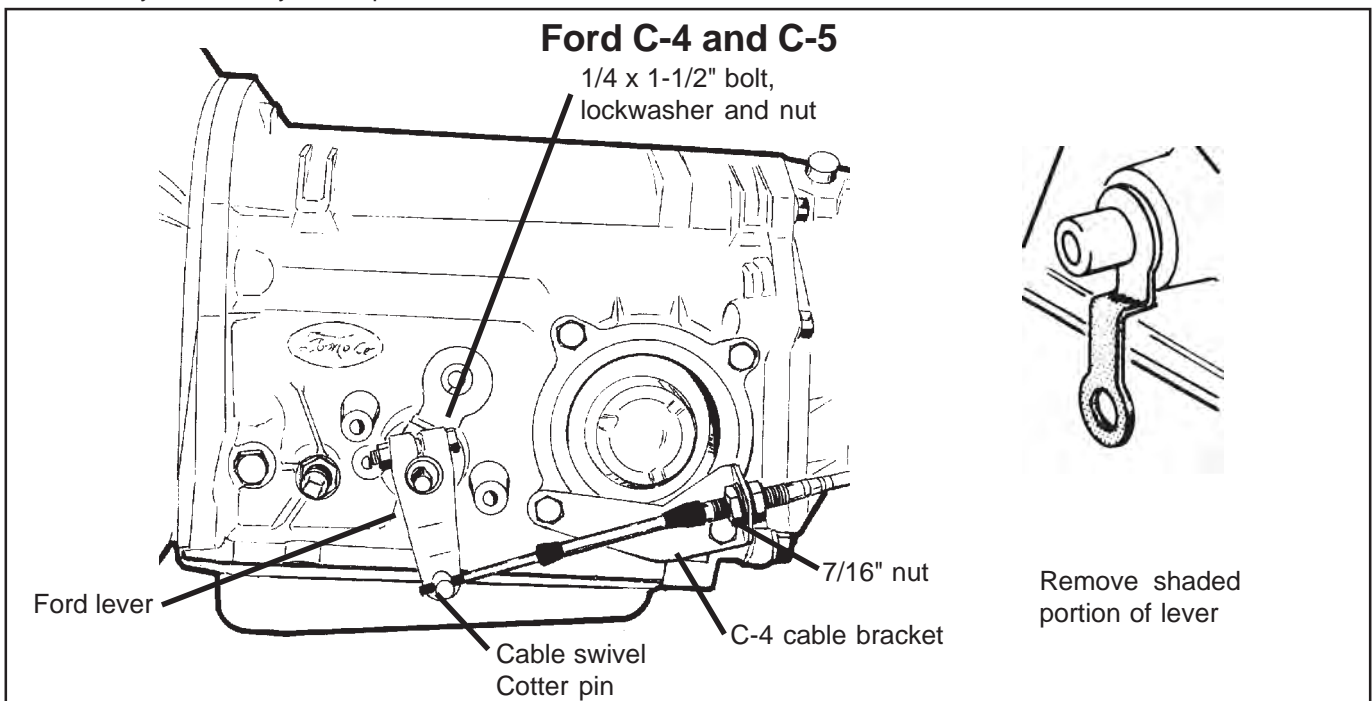

Figure 6
STEP 16. Install the **Hurst** selector lever (See **Figure 6 or 7**). **Note:** The **Hurst** lever must point downward for proper operation. If the stock shift lever on your transmission points down, you will have to remove the lower part of the stock arm by cutting it off to clear the **Hurst** lever (See **Figure 6**). Install the **Hurst** selector lever onto the shift shaft of the transmission. Align the selector lever so when it points straight down it travels equal arcs in both directions from the center, then tighten the 1/4"-20 x 1 1/2" pinch bolt and nut. The lever should travel smoothly from front to back with a positive click in each gear position. Make sure the O-ring is in position on the downshift shaft and install the downshift lever in position on the shaft. Install the lockwasher and the nut and tighten securely. The downshift lever must operate smoothly. Reconnect the downshift linkage.
C-4, C-5: Remove the two lower bolts from the rear servo cover. Install the cable bracket in position (See **Figure 6**). Install the two servo cover bolts as removed and tighten to 12-13 lb.ft. Do not overtighten as this can distort the servo cover.